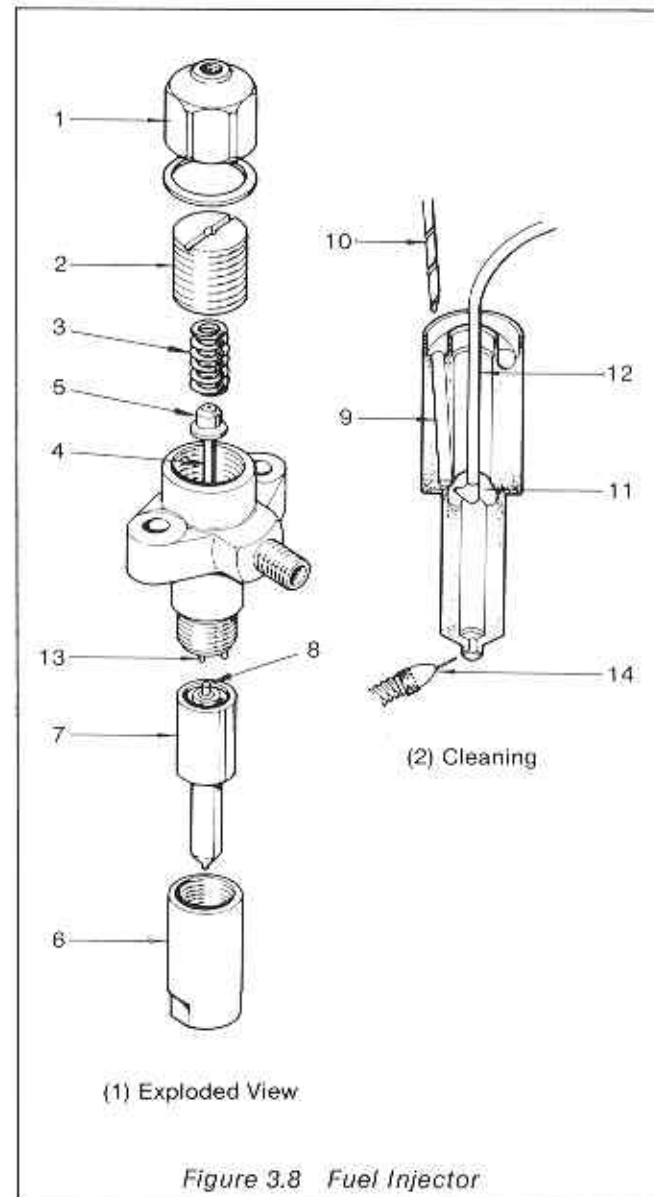

Figure 3.8 Fuel Injector
- (1) Connect the injector to the pump-to-injector fuel pipe in such a manner that the injector nozzle points away from the engine (Figure 3.8).
Dismantling (Figure 3.8)
Maintenance (Figure 3.8)
Assembly (Figure 3.8)